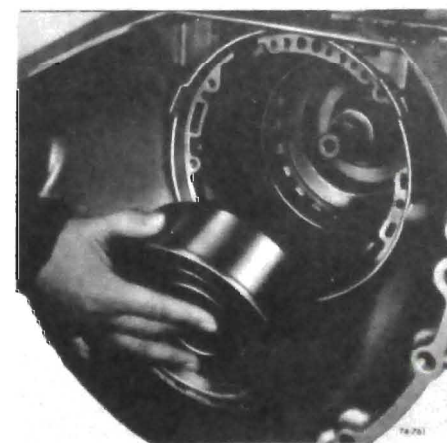

Figure 76-761
16. Install the direct clutch and intermediate sprag assembly. It will be necessary to twist the housing to allow the sprag outer race to index with the clutch drive plates. The housing hub will bottom on the sun gear shaft. See Figure 76-761.